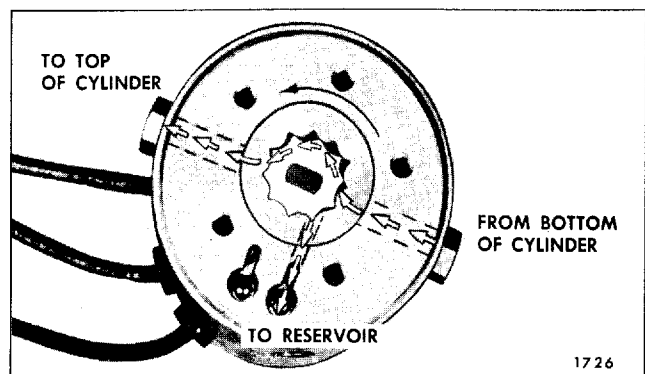

Fig. 6-63—Operation Of Pump To Lower Top
2. Lowering the Top. When the green motor lead is energized the motor drive shaft turns the rotors counterclockwise as indicated by the large arrow in Figure 6-63. The action of the pump rotors forces the fluid under pressure to the top of each cylinder. This action causes the fluid below the piston in each cylinder to be forced into the pump which recirculates the fluid to the top of each cylinder. The surplus hydraulic fluid due to piston rod displacement flows into the reservoir.